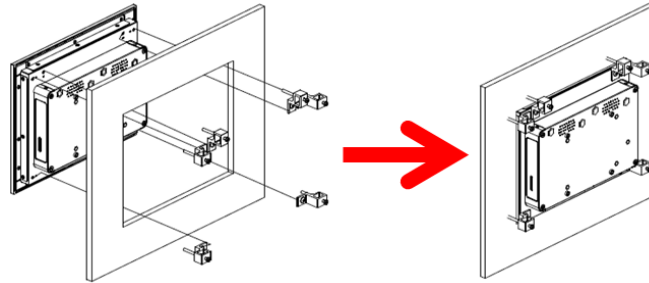

Figure 2-3: Screwing the Panel PC firmly to the panel frame.
- Step 4** As Figure 2-3 below illustrates, use the panel mount kits to secure the panel PC in the panel frame. Insert the screws through the hook brackets into the corresponding holes on the back chassis of the panel PC. Tighten the screws to fix the panel PC firmly into the panel frame.